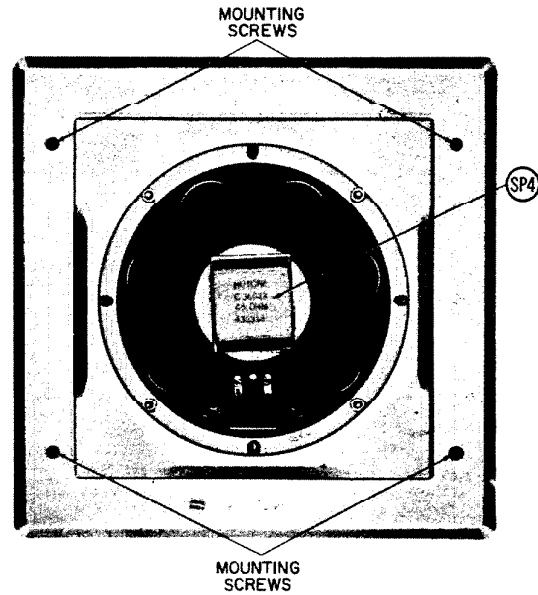

Fig. 14. Rear view of Model 2573 patio remote speaker station.
4. Model 2573—8 inch speaker (Fig. 14).
Installing Model 2573 Patio Speaker (Figs. 14, 15 and 16).